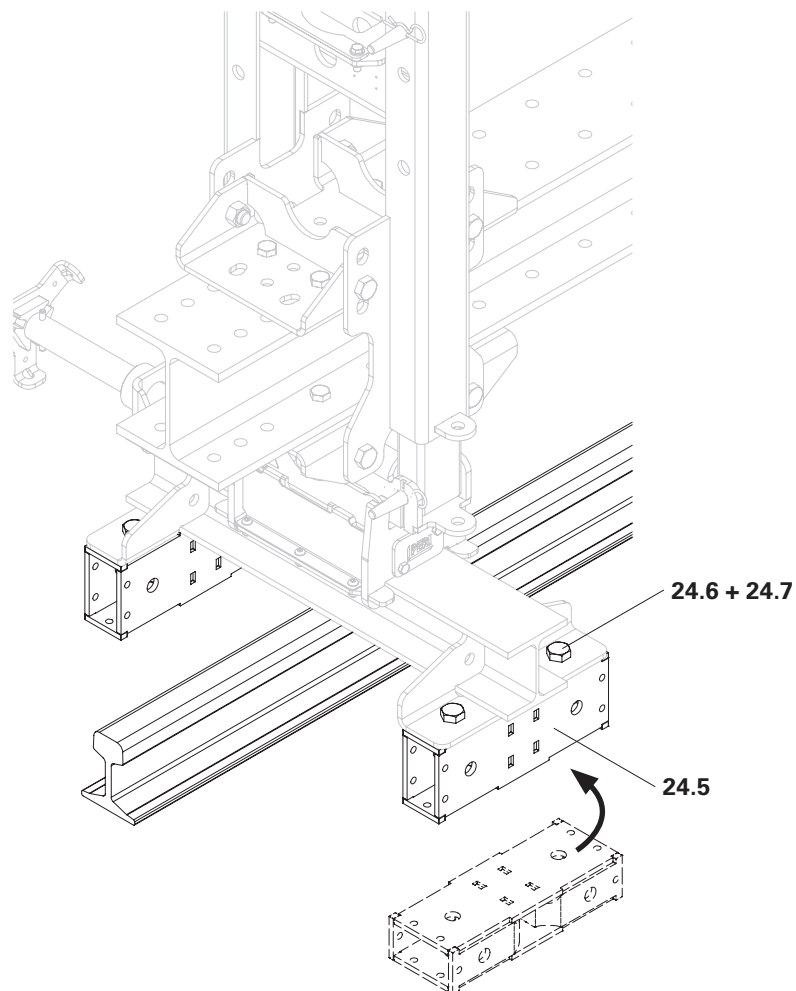

Fig. B2.06
4. For the rest of the assembly process for the hinge slide, see Assembly with Crane Rail A75. (Fig. B2.06)